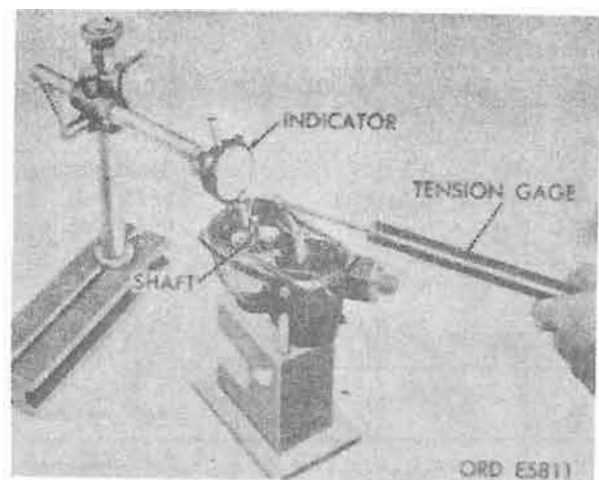

Figure 6-14. Measuring side play of shafts.
a. Clamp dial indicator on base with plunger resting against side of shaft (fig. 6-14). With tension gage, apply a 5-pound pull in line with plunger. If side play is more than 0.0005 inch, measure shaft diameter. If shaft is between 0.497 and 0.499 inch, discard base.